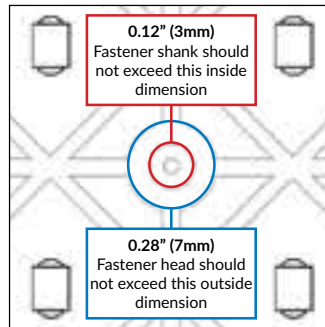

Figure 19
- **Warning:** only insert fasteners through the pre-cut, marked mounting holes (figure 19).